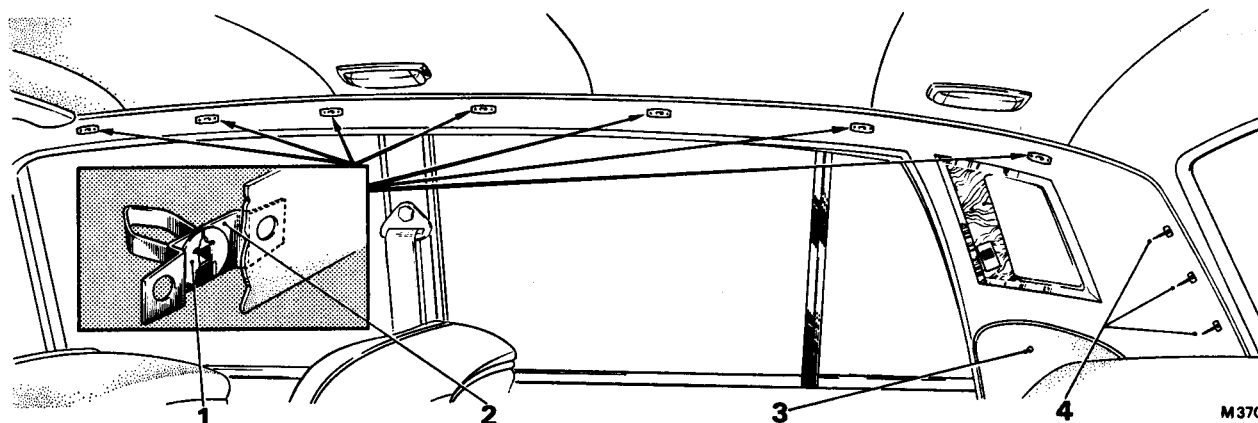

FIG. S43 POSITION OF THE QUARTER PANEL/CANTRAIL UPHOLSTERY CLIPS AND PINS (4-Door Saloon and Long Wheelbase Non-division Cars)
7. Remove the two quarter/cantrail trim panels as follows (*see Fig. S43*).